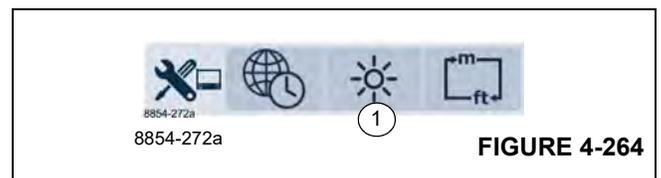

FIGURE 4-264
Select the Display Screen Brightness Icon (1), (Figure 4-264) under the Display Settings Menu Group to show the Display Screen Brightness function screen.